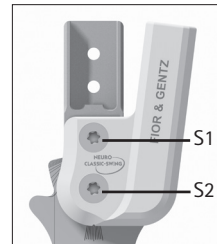

fig. 18
5. Turn in the second countersunk flat head screw (axle screw, S2; fig. 18) according to the torque given in the table (see paragraph 11.6).
Position of the Screw (fig. 18)	System Width